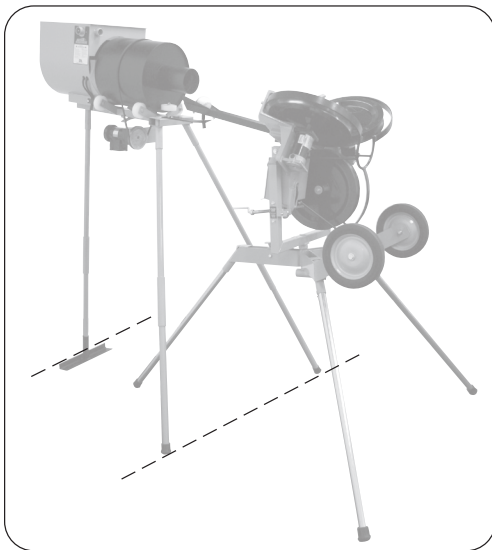

Fig. 1 Rear leg is parallel to the front legs.
2. Make sure rear leg is aligned with both front legs (see Fig. 1).